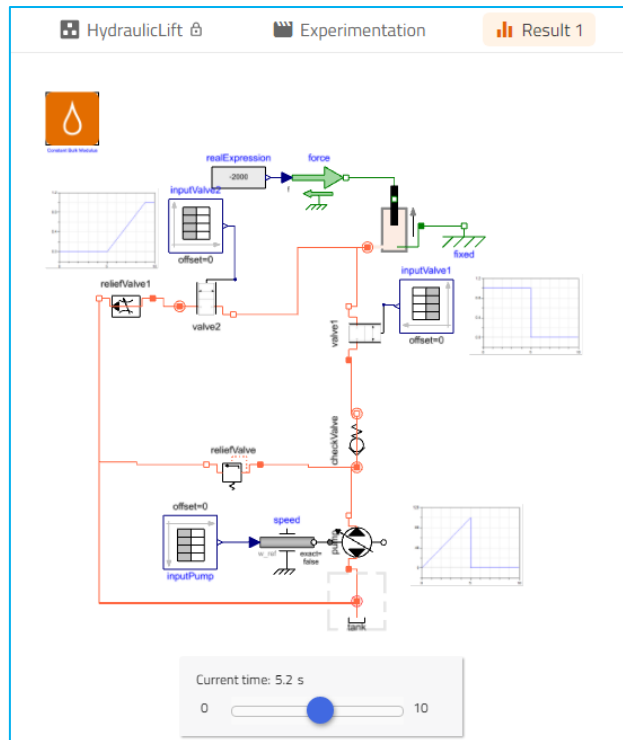

Figure 5 Animate model
- To visualize the 2D animation of the Hydraulic lift, slide the time slider, located at the bottom of the screen, and check the model behavior from 0 sec to 10 sec. The 2000N (approx. 200kg) load on the plunger cylinder is initially lifted as the pump speed is ramped up to 100 rad/s during the first 5 seconds. valve1 will then cut the flow to the cylinder and valve2 will then open slowly to let the oil out to the tank as shown in Figure 5.